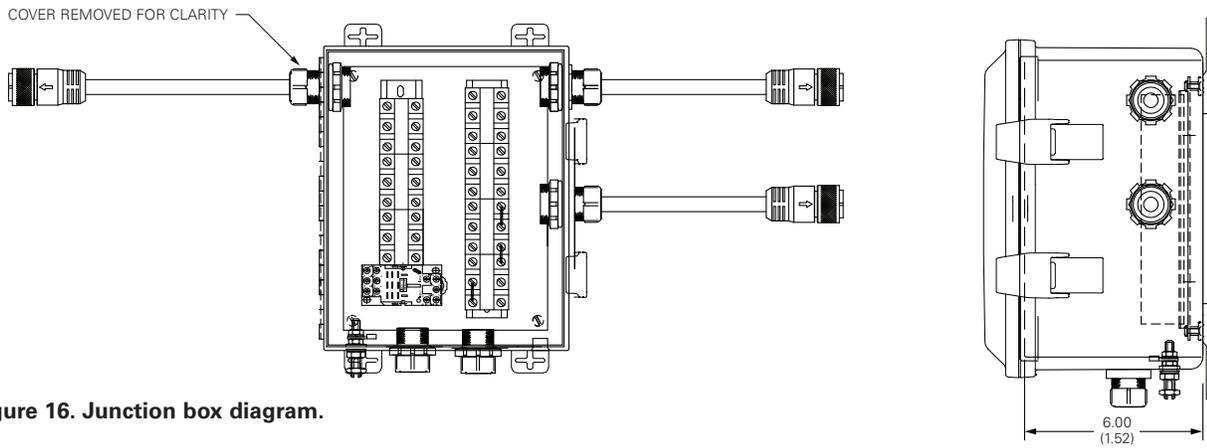

Figure 16. Junction box diagram.
All TriSync switch connections are pre-wired and routed to a junction box, as shown in Figure 16, mounted on the switch frame structure. Quick connections can be made at the junction box via two (2) receptacles. The junction box enclosure is constructed from a high-impact strength, ultraviolet (UV) resistant polymer material.